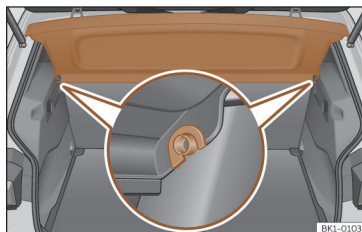

Fig. 169 In the boot: removing and installing the shelf.
- Remove the rear shelf from the side supports >>> **Fig. 169** by pulling it upwards and then take it out.
- Insert the cover horizontally so that the "recess" fits onto the axis of the supports >>> **Fig. 169** and press down until it engages.